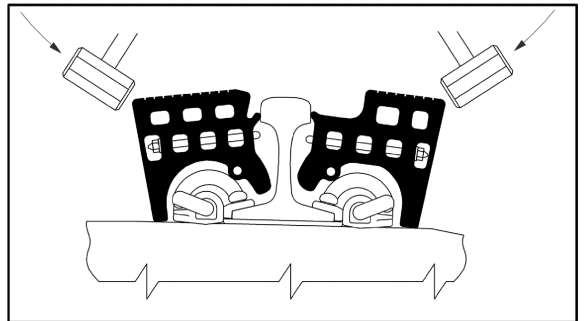
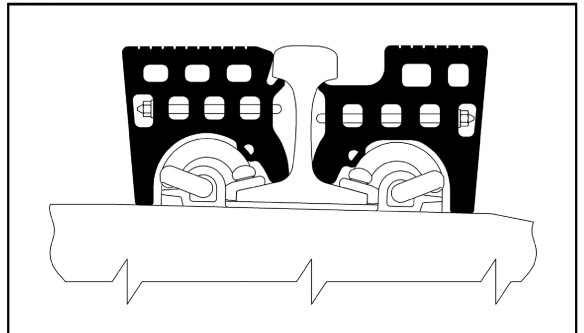

Figure 2
Figure 3
- 2** Place Rubber Interface over Pandrol e-clips and against the rail head as shown (Fig. 2)
- 3** Seat Rubber Interface into rail by hitting them with a sledge hammer as shown (Fig. 2) until they are in the position shown (Fig. 3)